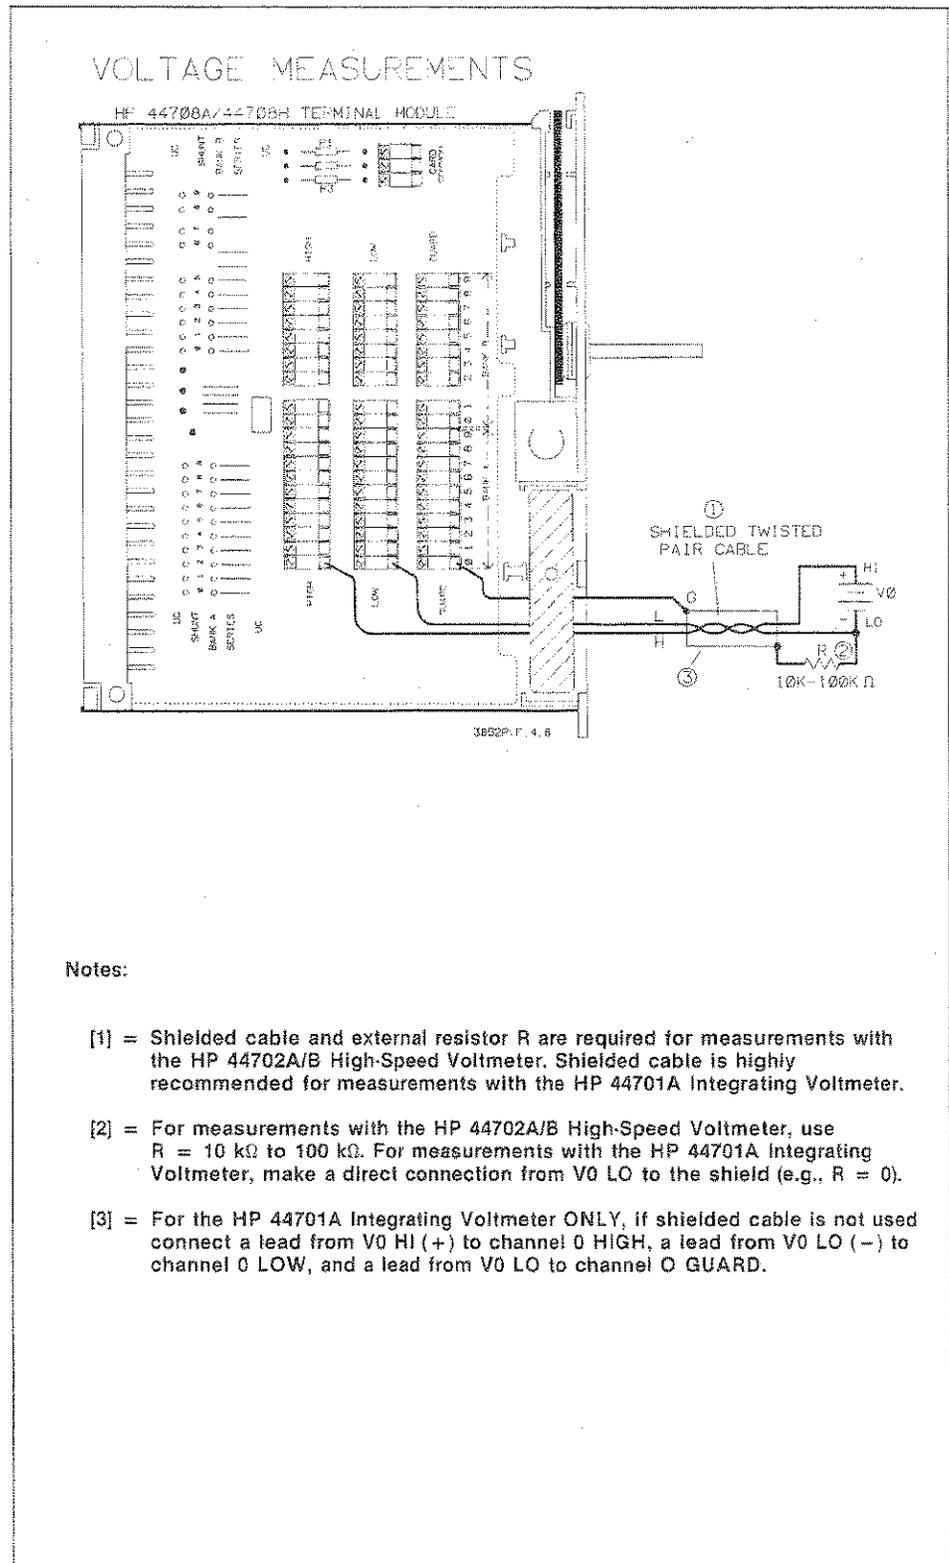

Figure 4-8. HP 44708A/44708H Voltage Connections
Figure 4-8 shows typical voltage measurement connections to channel 0 on the terminal module. Connect the HI (+) lead from the voltage source to channel 0 HIGH terminal and the LO (-) lead from the voltage source to the channel 0 LOW terminal. If a guarded (3-wire) voltage measurement is being made, connect the shield from the shielded twisted-pair cable to the channel 0 GUARD terminal.
Since the shielded, twisted-pair cable reduces measurement noise, shielded cable is required for measurements with the HP 44702A/B voltmeter and is highly recommended for measurements with the HP 44701A voltmeter. Also, for the HP 44702A/B voltmeter, an external resistor (R) should be connected between the source voltage LO and the shield, as shown in Figure 4-8.